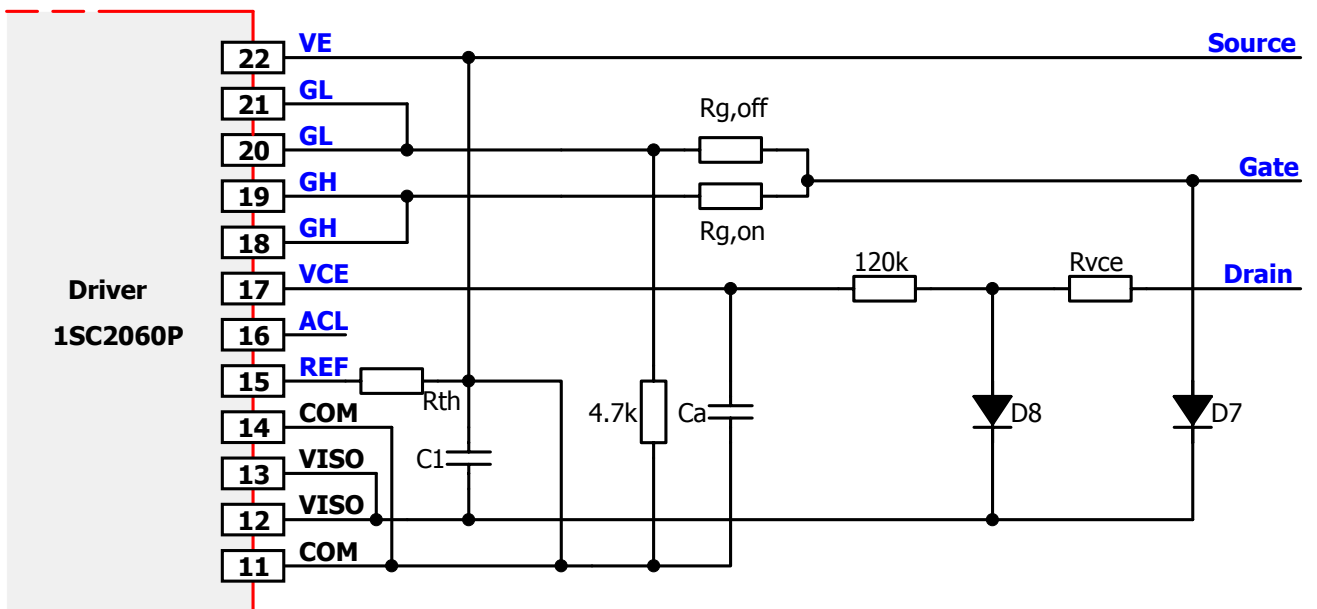

Fig. 6 Recommended user interface of 1SC2060P for MOSFET mode without advanced active clamping (secondary side)
- The second mode has been specifically designed for ultra-fast MOSFET switching. It incorporates a single turn-on voltage only. The turn-off voltage is set to 0V. This MOSFET mode is activated by connecting the secondary-side terminals COM and VE (see Fig. 6). The turn-on voltage in MOSFET mode is directly derived from the primary-side input voltage VDC and can freely take on values between 10V and 20V (read the driver data sheet for more information /3/).